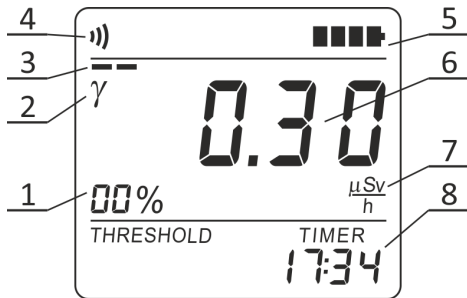

Figure 2.2 – LCD of the radiometer (viewing the value of specified limit of statistical deviations and alarm threshold level)
2.3.3.6.19 Press THRESHOLD button to view the specified limit of statistical deviations and the alarm threshold level. The specified limit of statistical deviations and the alarm threshold level are displayed on the LCD (Figure 2.2) while THRESHOLD button is being pressed and held down (but not longer than 2 s). If a zero value is displayed it means that the radiometer determines it automatically depending on the radiation intensity.